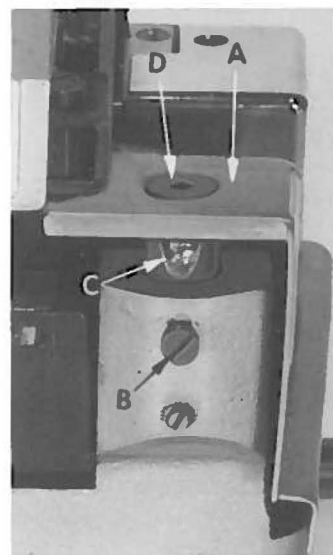

Fig. 15
**CAUTION:** When removing the cloth plate (A, Fig. 15) loosen the clothplate stud locking screw (B) and lift up cloth plate with the cloth plate stud (C) and cloth plate screw (D), assembled.